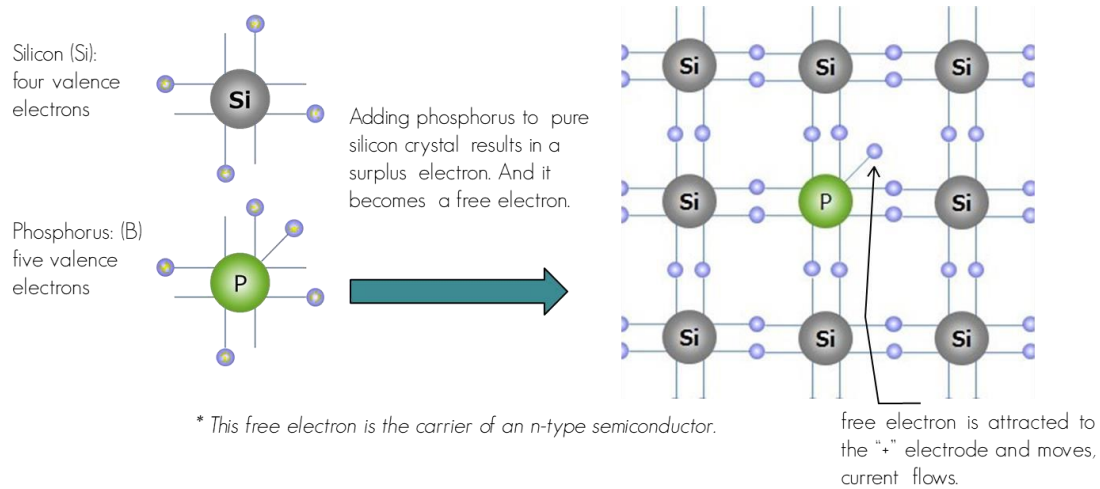

Figure 1.7 N-type semiconductor
- An n-type semiconductor is an intrinsic semiconductor doped with phosphorus (P), arsenic (As), or antimony (Sb) as an impurity.
- Silicon of Group IV has four valence electrons and phosphorus of Group V has five valence electrons as shown in Figure 1.7. If a small amount of phosphorus is added to a pure silicon crystal, one of the valence electrons of phosphorus becomes free to move around (free electron*) as a surplus electron. When this free electron is attracted to the "+" electrode and moves, current flows.